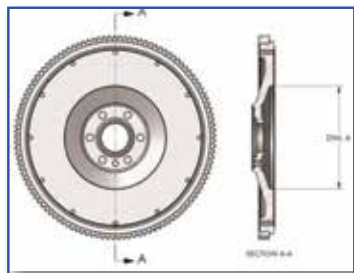

Fig. 1
Flywheel bore (DIM A) must be a minimum of 10". (Fig. 1)
3. Verify disc fits in flywheel bore (Fig. 1). Slide disc the length of the input shaft checking for twist and wear. Insert alignment shaft through bearing housing. Install rear disc (oriented correctly), center plate, and front disc (oriented correctly) on alignment shaft. Move clutch housing towards flywheel making sure cover fits into flywheel pilot.